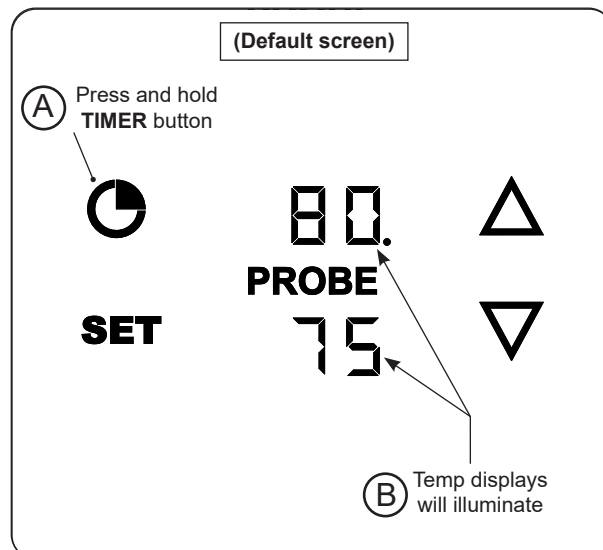

Fig. 34-1 Turn on thermometer/thermostat
3. Press and hold the **TIMER** button (Fig. 34-1, A) until the remainder of the displays illuminate (Fig. 34-1, B). This is the “**default screen**”. The default screen displays your temperatures. The top display is the grilling temperature, and the bottom display is the meat probe temperature (if plugged in).